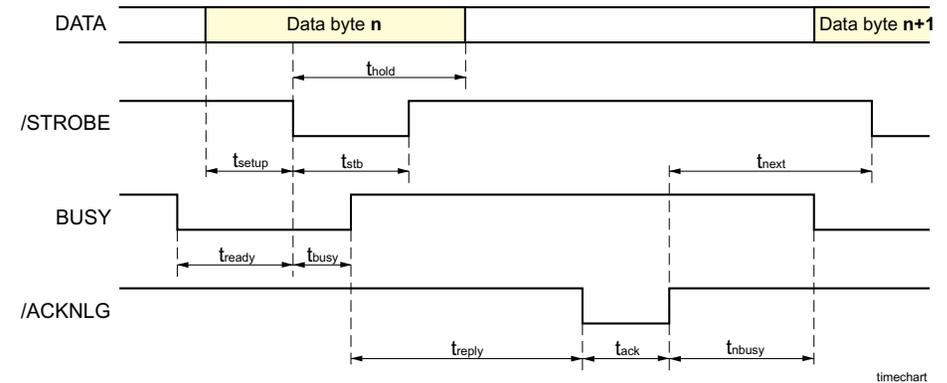

Figure 1-3. Data Transmission Timing Chart
- During data entry (see Figure 1-3, "Data Transmission Timing Chart")